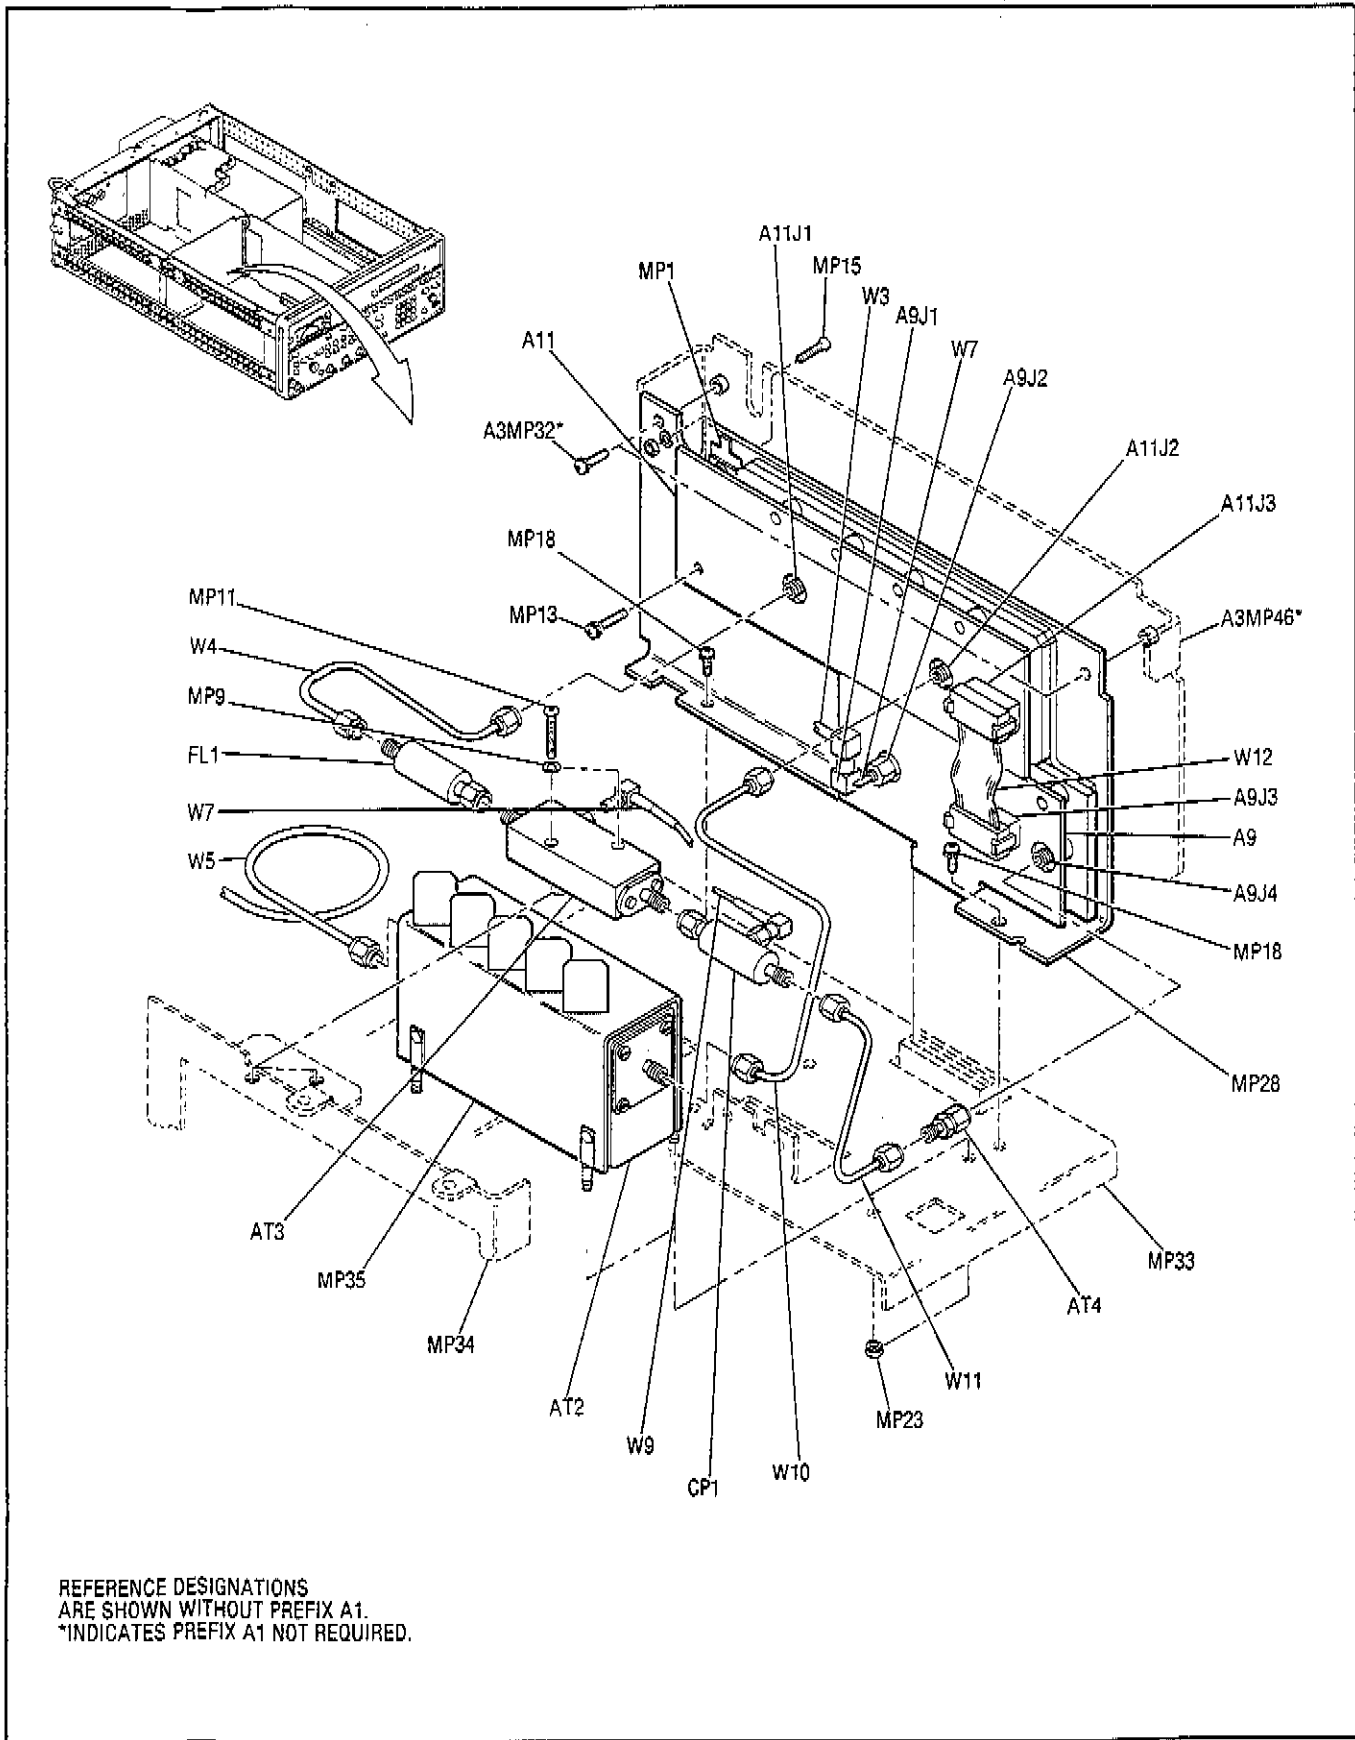

Figure 8-305. A1 RF Output Assembly — Pre Amp and Power Amp
- c. Refer to Figure 8-305 for the following steps.